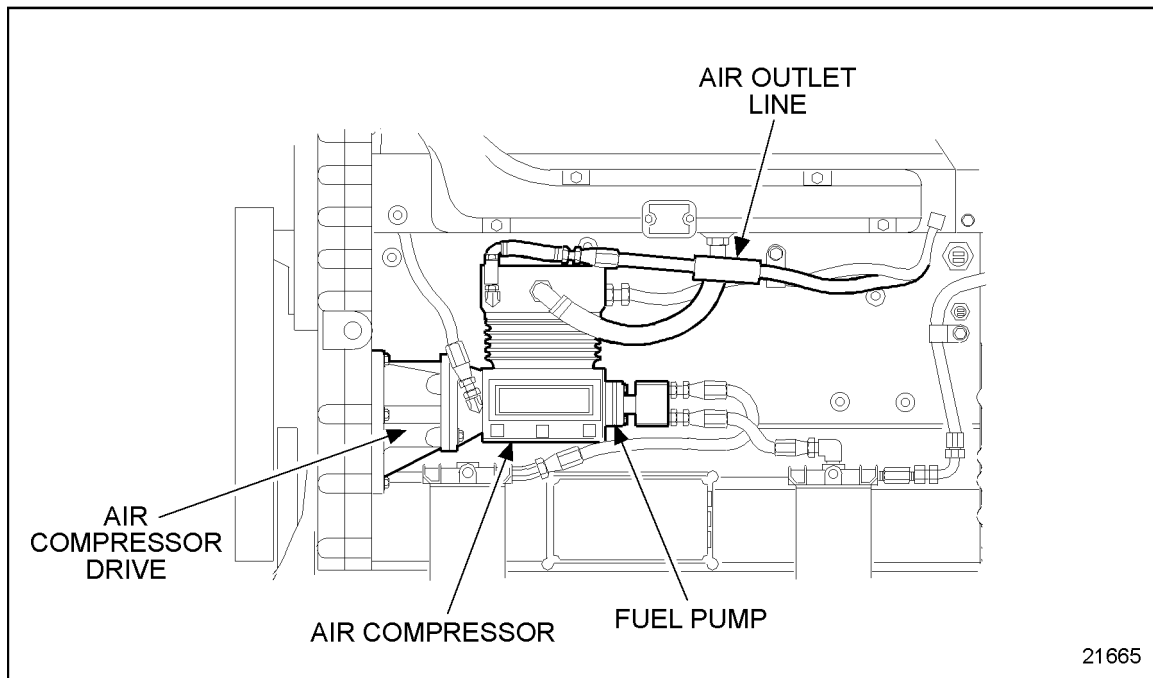

Figure 6-1 Air Compressor Air Outlet Line
2. Disconnect the air outlet line from the air compressor; see Figure 6-1; refer to appropriate service manual, special equipment chapter.